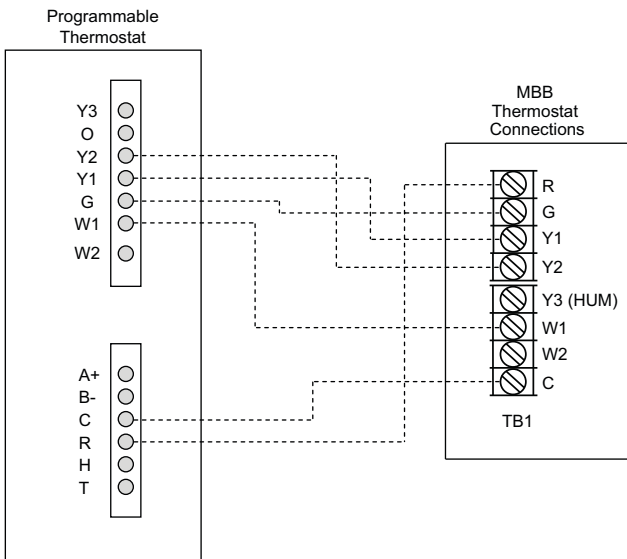

Fig. 53 — Typical Thermostat Connections – SystemVu Controller MBB
4. For SystemVu controller units see Fig. 53. Refer to the installation instructions included with the Carrier Connect Plus thermostat for more information.